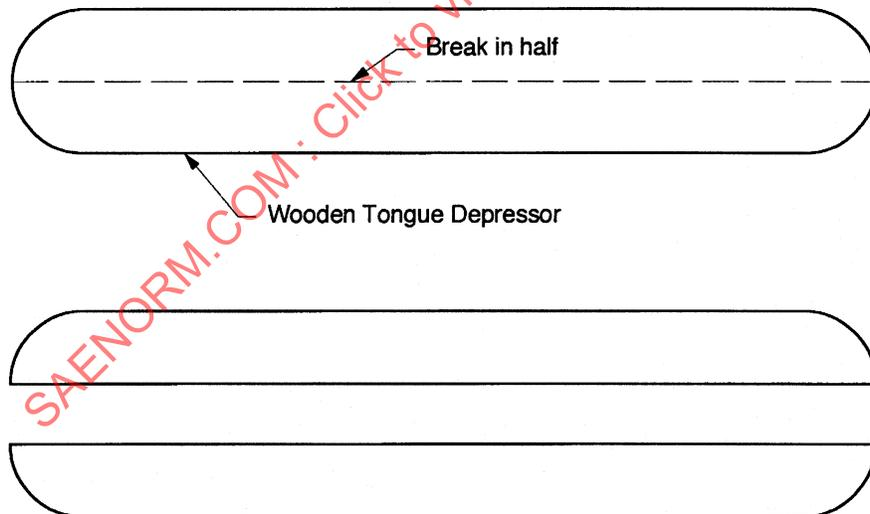
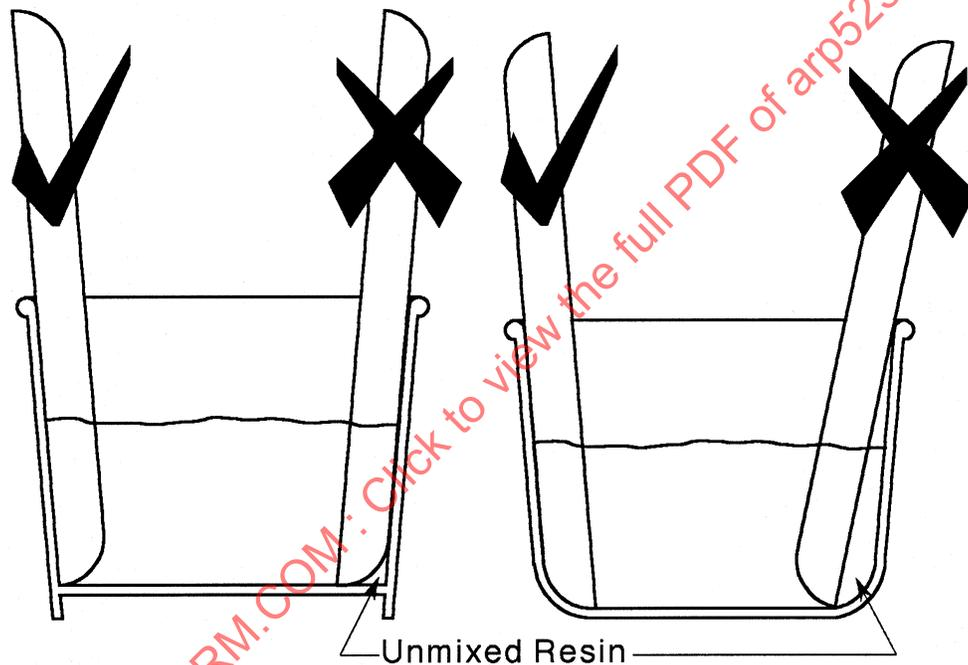

FIGURE 1 - Tongue Depressor for Spatula
FIGURE 2 - Proper Positioning of Spatula When Mixing
- a. Spatula: Clean spatulas are needed to transfer the resin and hardener to the mixing container and to mix the resin in the container. Typically, a metal spatula or a wooden tongue depressor is used. Use separate spatulas for each resin component to prevent cross contamination. A single tongue depressor can be split in half length wise to make a spatula with a sharp end to get into corners better (see Figure 1).
- b. Container: A clean container is needed to contain the resin during measuring and mixing. The recommended containers are translucent High Density Polyethylene (HDPE), glass, metal, coated paper, PTFE or polypropylene with a height to diameter ratio of one. The split tongue depressor shown in Figure 1 can be used with a rounded bottom container or a straight bottom container as shown in Figure 2. Make sure the spatula is able to scrape all unmixed resin from the sides and bottom of the container. The translucent sides allow the user to inspect for any unmixed resin. Metal containers with rust on the inside or wax coated paper should not be used.